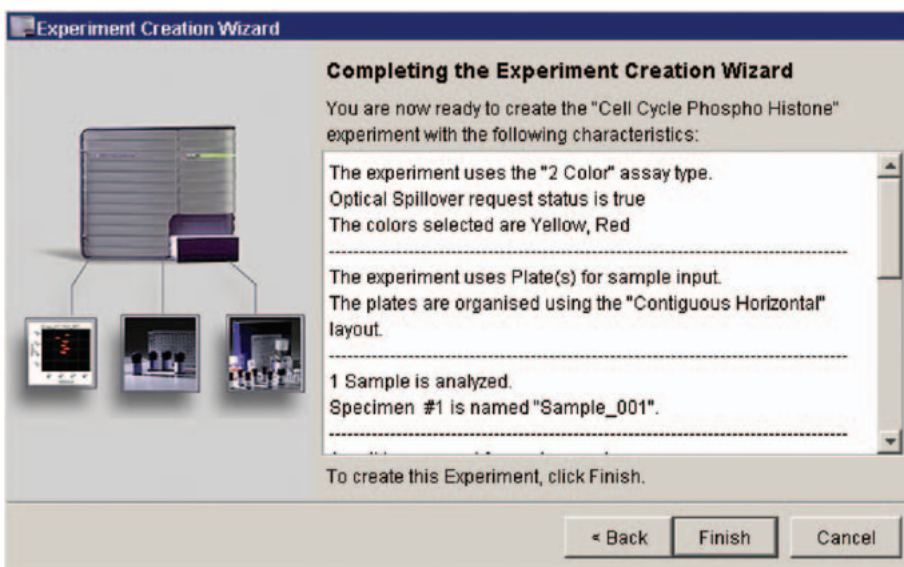

Figure 11
- The Completing the Experiment Wizard summary view appears (*Figure 11*).